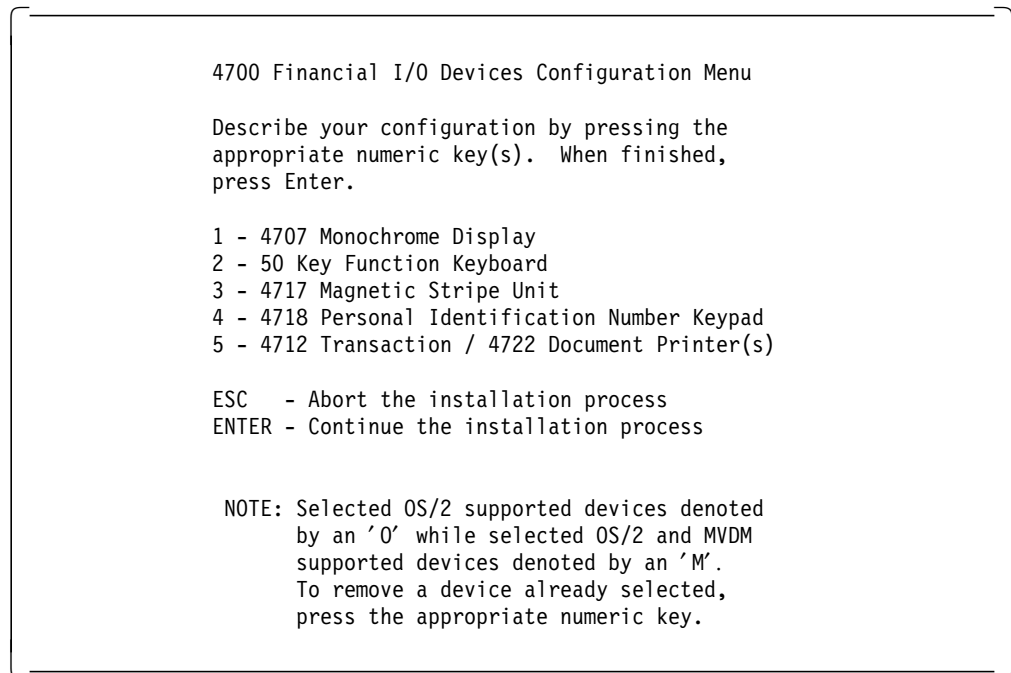
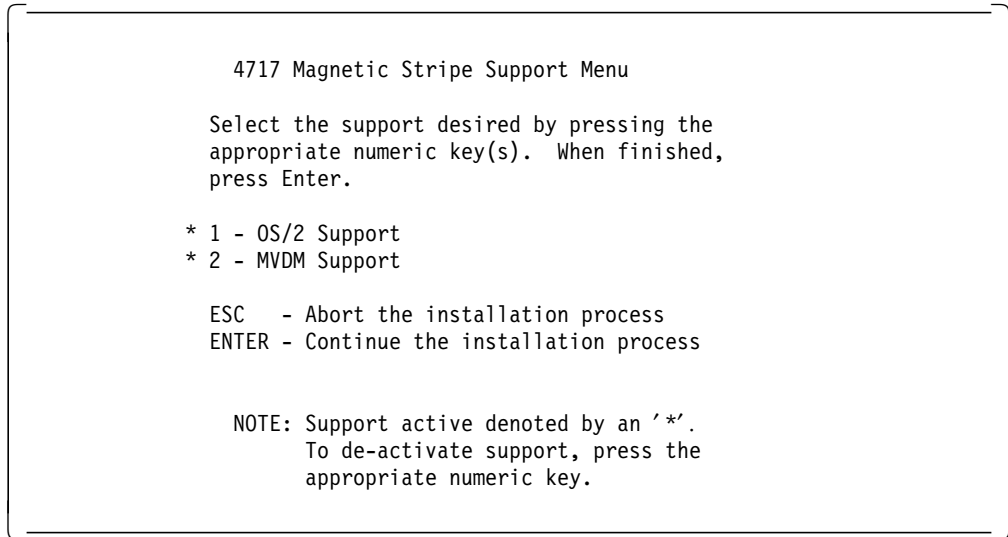

Figure 51. 4700 Financial I/O Devices Configuration Menu
Figure 52. 4717 Magnetic Stripe Support Menu
3. Press Enter and Figure 51 on page 109 will be presented.
As shown in Figure 51, you need to select the desired option:
1. Assuming that you selected option **3** on Figure 51 then Figure 52 on page 110 will be presented.
As shown in Figure 52, you need to select the desired option: